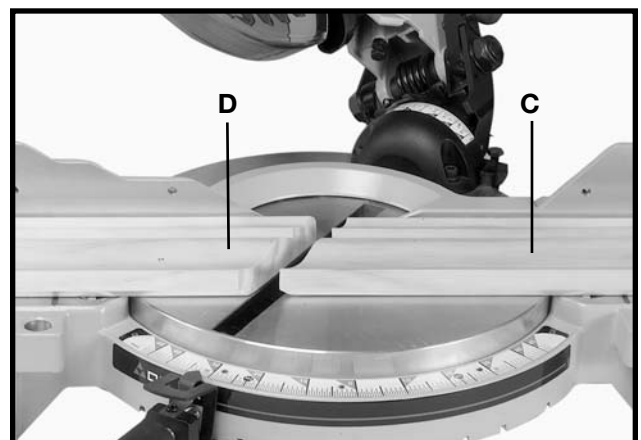

Fig. 42
5. Place the crown molding on the table with the **WALL EDGE** of the crown molding against the fence and make the cut. Again, the piece of crown molding used for the outside corner will always be on the right side of the blade, (C) Fig. 42. The piece of crown molding used for the inside corner will always be on the left side of the blade (D) Fig. 42.